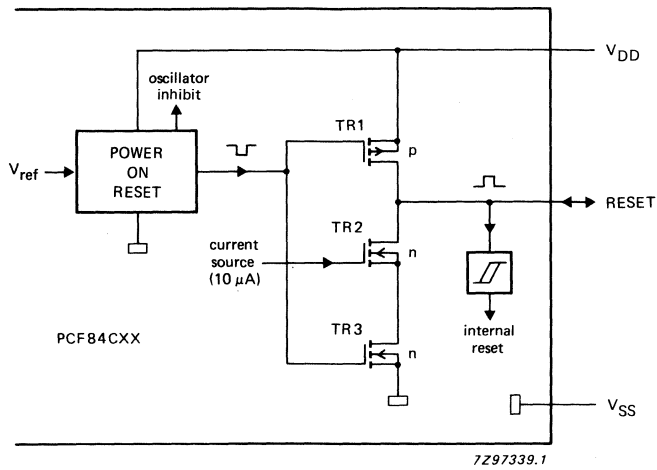

Fig. 23 Power-on-reset configuration.
1. If  $V_{DD}$  can be switched with a fast rise time i.e.  $V_{DD}$  reaches its minimum operating value (corresponding to the selected oscillator frequency) before the RESET signal has finished ( $t_D$ ), then no extra components are required (see Figs 23 and 24). Note that the first instruction is executed after the oscillator start-up time plus 1866 clock periods have elapsed.